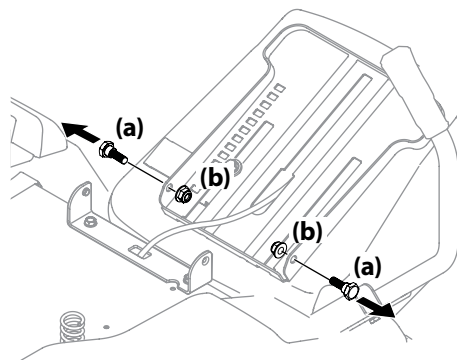

Figure 2-3
- Remove the two shoulder screws (a) and lock nuts (b) in the seat pan as shown in Figure 2-3.